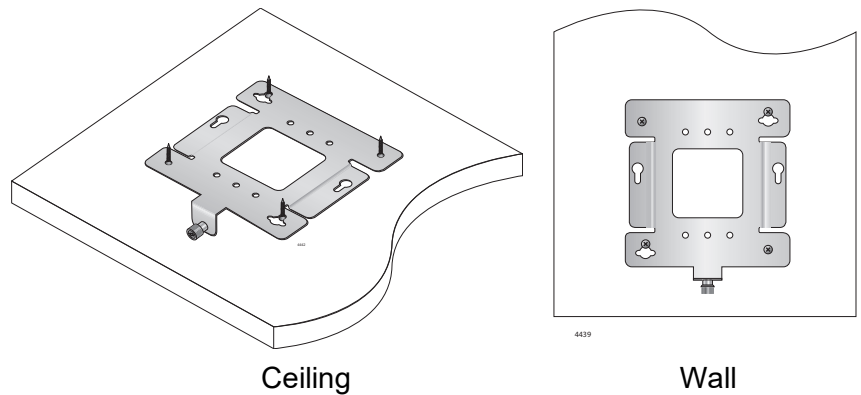

Figure 11. Stationary Bracket Position
- Install and tighten two M4 screws (not provided) in the holes prepared in Step 5. The physical position of the bracket is now stationary. Refer to Figure 11.